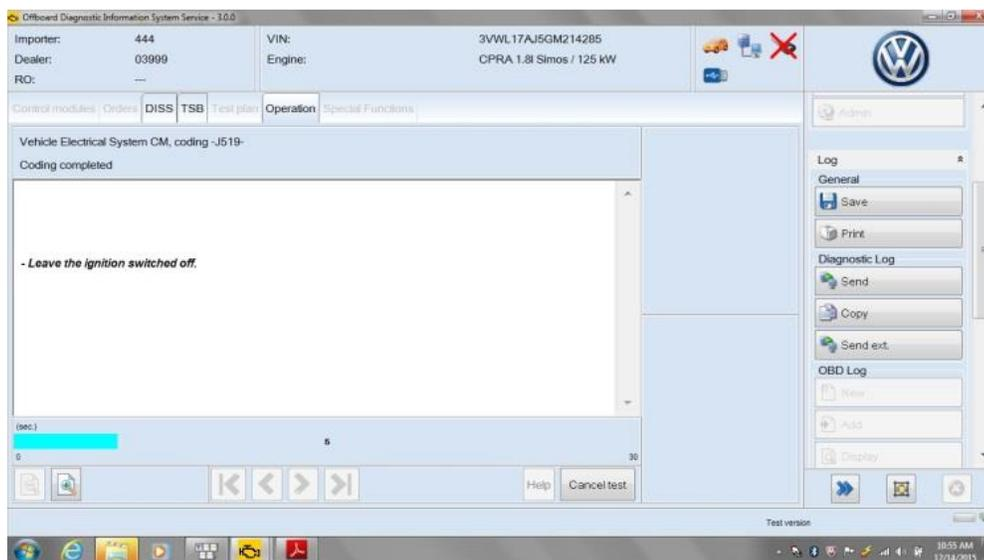

Figure 11
- Next leave ignition off for 30 seconds. (Figure 11)